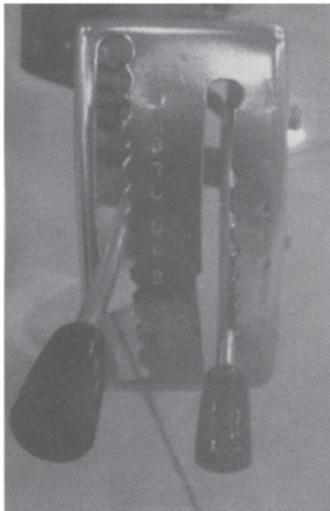
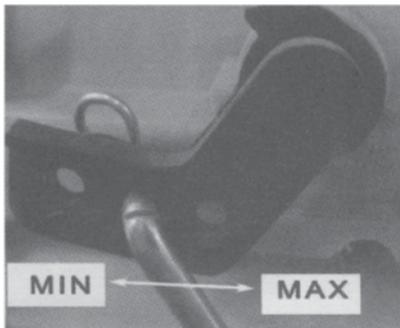

Fig 11
Fig 12
(2) Dusting. Regulate the discharge by shifting the dust rod's position in the three holes of the rock-arm. See Fig. 11 and Fig. 12.